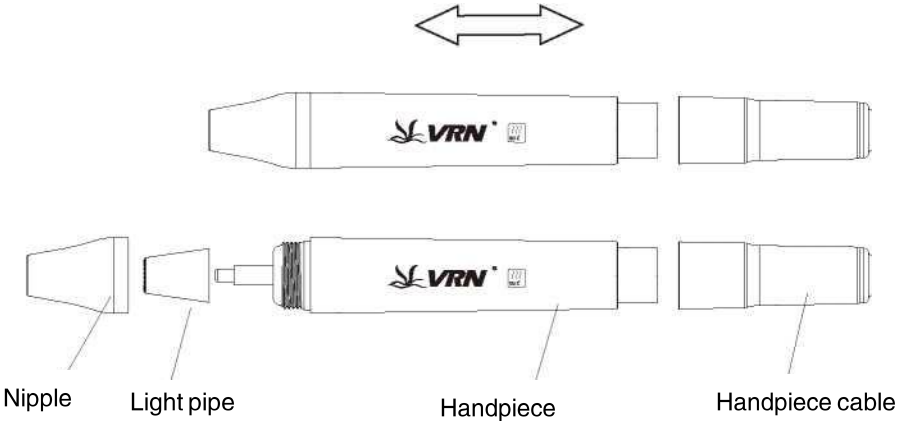
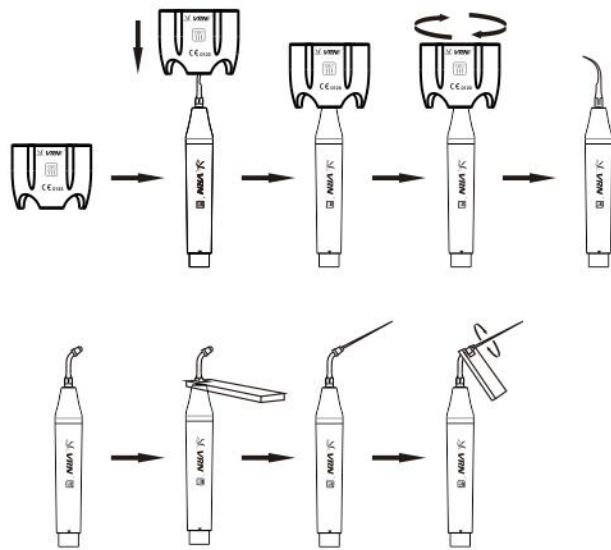

Figure 5
Figure 6
Design with special structure, the torque wrench could not only effectively assemble and disassemble the ultrasonic scaler tips, but also protect the operator's hands. Operation Steps (See Figure 6):
- (5) Fasten the ultrasonic scaler tips on the hand of the handpiece with torque wrench (see Figure 6), then properly connect the handpiece to the cable socket. Before installing the handpiece, thoroughly dry the handpiece and the cable socket (see Figure 5).
- (1) Use an Endo wrench to fix the file holder on the hand of the handpiece (see Figure 6).
- (2) Unscrew the nut of the file holder (see Figure 6).
- (3) Insert the file into the hole in front of the file holder (see Figure 6).
- (4) Tighten the nuts with the Endo wrench (see Figure 6).
- (5) Press the key "E" and the indicator light of "E" is on.
- (6) When the endodontic irrigating function is selected, only the function indicator light and the first power indicator light are illuminated. When the file is slowly inserted into the patient's root canal, depress the foot switch and start the endodontic irrigating. The power of endodontic irrigating shall be adjusted according requirements.